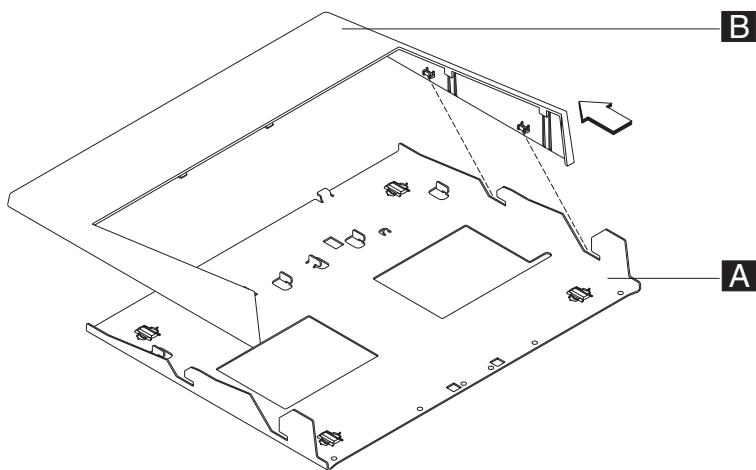

Figure 46. Sliding the fence off of the integration tray
- 2) Alternating from side to side, slide the plastic fence **B** about 7 mm (0.25 in.) until the plastic fence is detached from the metal integration tray **A**, as shown in Figure 46 on page 76.